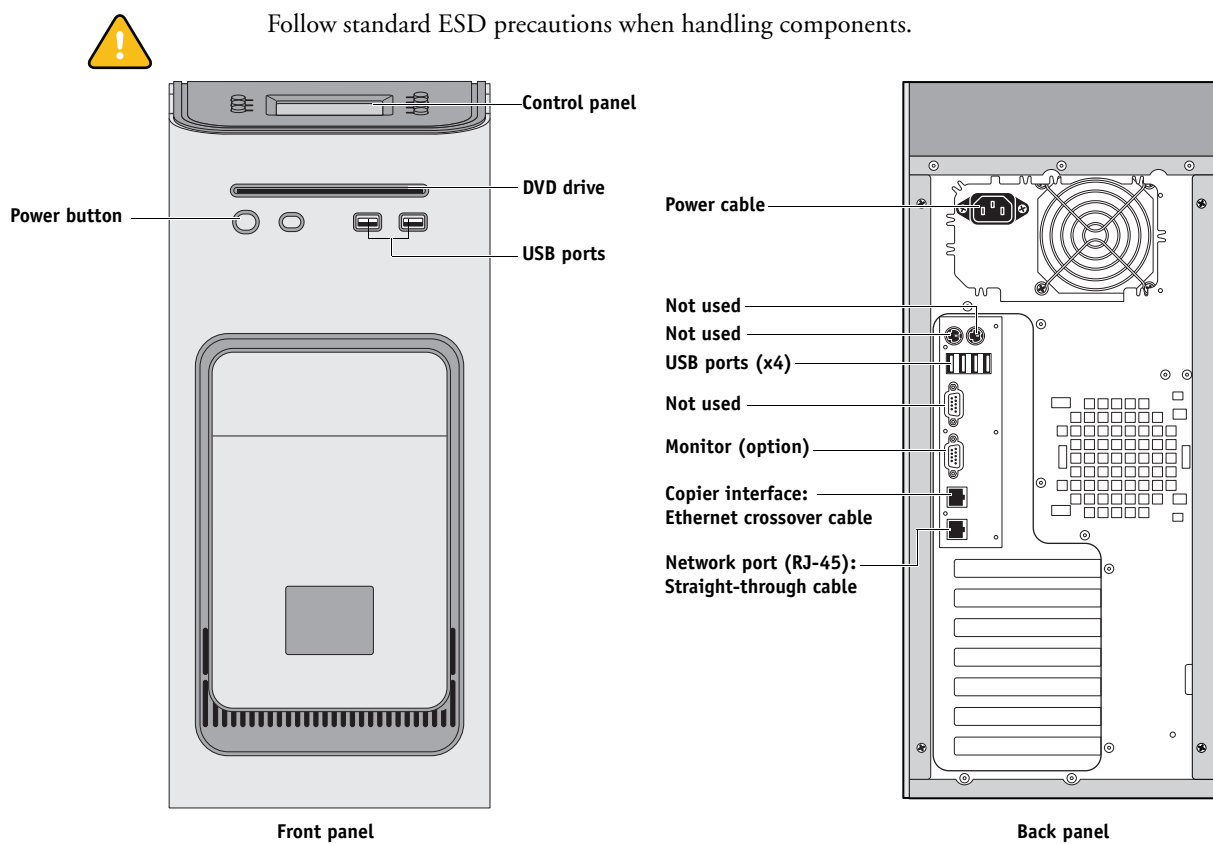

FIGURE 5: E-8100 connections
1. Connect the female end of the E-8100 power cable to the power connector on the back of the E-8100 (see Figure 5 on page 28).
NOTE: The copier interface cable included with the E-8100 is a 16.4 ft. Ethernet *crossover* cable that connects to the **upper** RJ-45 port on the E-8100 back panel. The network cable at the customer site is a *straight-through* Ethernet cable that connects to the **lower** RJ-45 port on the E-8100 back panel. The cables look similar but are not interchangeable. Make sure that you connect the cables to the correct ports (see Figure 5 on page 28).
2. **Connect the straight-through network cable to the lower RJ-45 network port on the back of the E-8100 (see Figure 5 on page 28).**
2. **Power on the E-8100 using the power button on the front panel (see Figure 5 on page 28).**